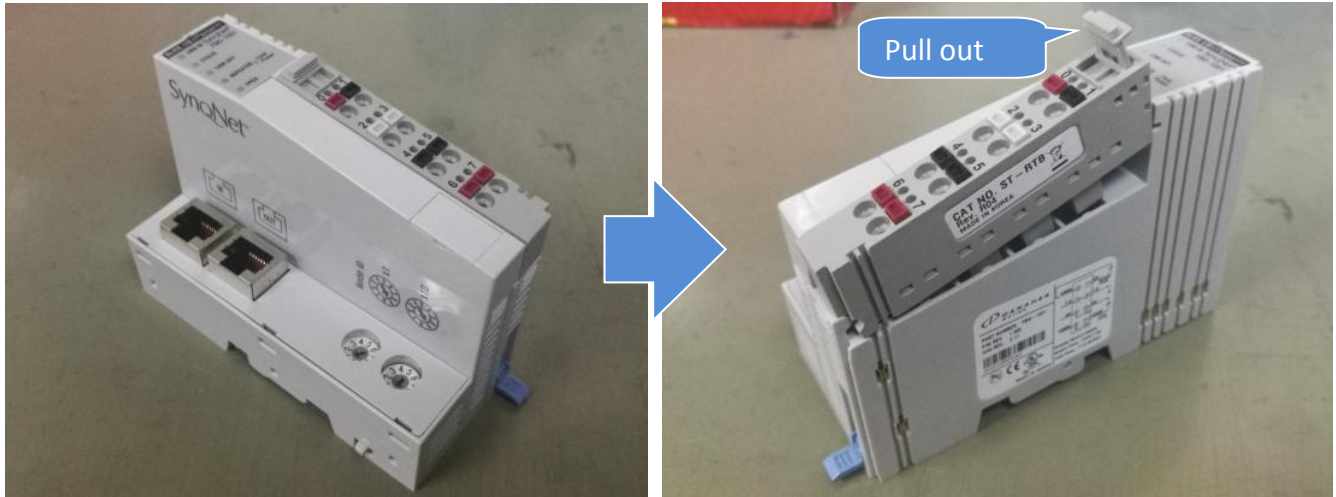

Figure 10 I/O, MODULE, SYNQNET NETWORK ADAPTER (TSIO-1001)
12. Prepare I/O, MODULE, SYNQNET NETWORK ADAPTER (TSIO-1001) (P/N, 2150-0020) and remove the IO Connector as below Figure 10